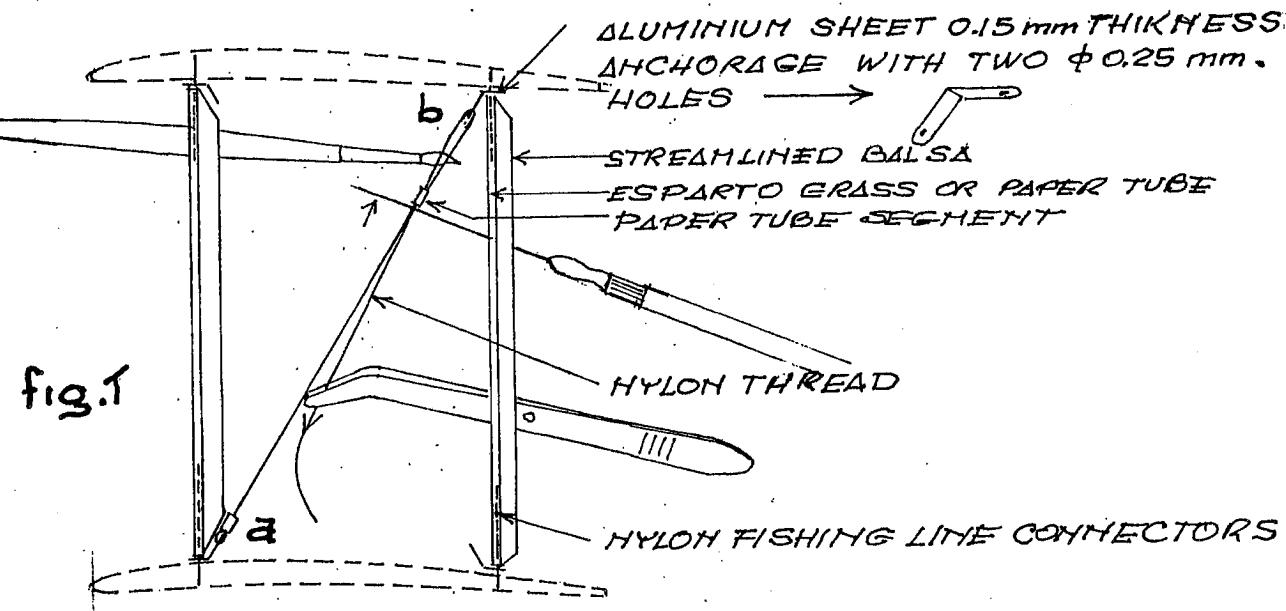

fig.1
- ① CONNECT STRUTS PUTTING NYLON LINE CONNECTORS INSIDE HOLES PREVIOUSLY PREPARED IN THE WINGS AND INTERCALATING ALUMINIUM SHEET ANCHORAGES
- ② FASTEN RIGGING TIPS (NYLON THREAD) TO ANCHORAGE ("a" IN THIS CASE) FORMING A LACE WITH THE PAPER TUBE SEGMENT - GLUE IT USING CELULOSIC CEMENT
- ③ THREAD THE OTHER TIP OF THE NYLON THREAD TO ANOTHER PAPER TUBE SEGMENT AND NEXT THREAD THE LINE THROUGHOUT THE ANCHORAGE HOLE "b" AND THREAD THE LINE INTO THE PAPER TUBE AGAIN (FIG.1)
- (4) USING A TWEEZER PULL THE NYLON THREAD TIP FOLLOWING THE DIRECTION OF THE RIGGING - APPROACH THE PAPER TUBE SEGMENT TO THE ANCHORAGE - GLUE IT USING CELLO-LOGIC CEMENT NEXT TO THE ANCHORAGE AND SLIDE THE PAPER TUBE SEGMENT TO THE ANCHORAGE - KEEP ON THE STRESS OF LINE UNTIL THE CEMENT IS 'DRY' (FIG. 1)